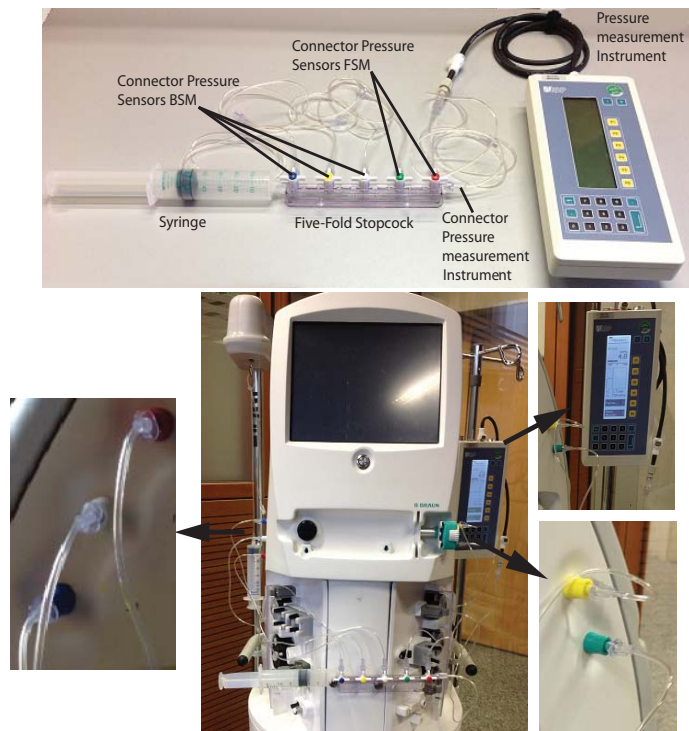

Fig. 6-43 Test and calibration pressure sensors
- Test system is connected to the machine according to Fig. 6-43 Test and calibration pressure sensors (359).